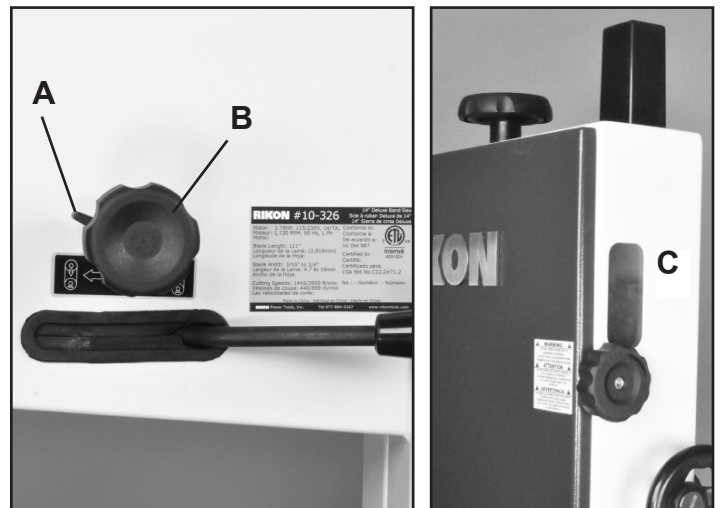
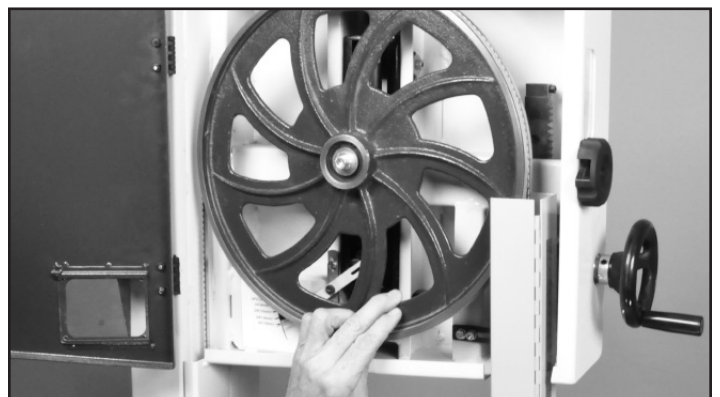

FIGURE 14
FIGURE 15
1. Open both doors. At the rear of the machine, loosen the Lock Lever (#22D, FIG. 14, A) by turning it counterclockwise.
2. Turn the Blade Tracking Handle (#23D, Fig. 14 B) clockwise or counterclockwise, while at the same time carefully turning the Upper Wheel (#24E) by hand. Fig. 15. Check the tracking of the blade on the wheel through the side window (C). Make at least three rotations of the wheel or until the blade tracks centered on the wheel.